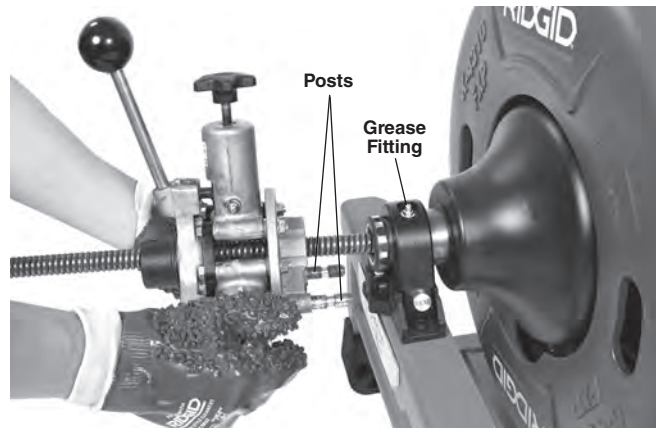

Figure 7 – Installing the AUTOFEED Unit
3. Place AUTOFEED unit over the cable and align the posts with mating holes in the AUTOFEED mount (*Figure 7*).